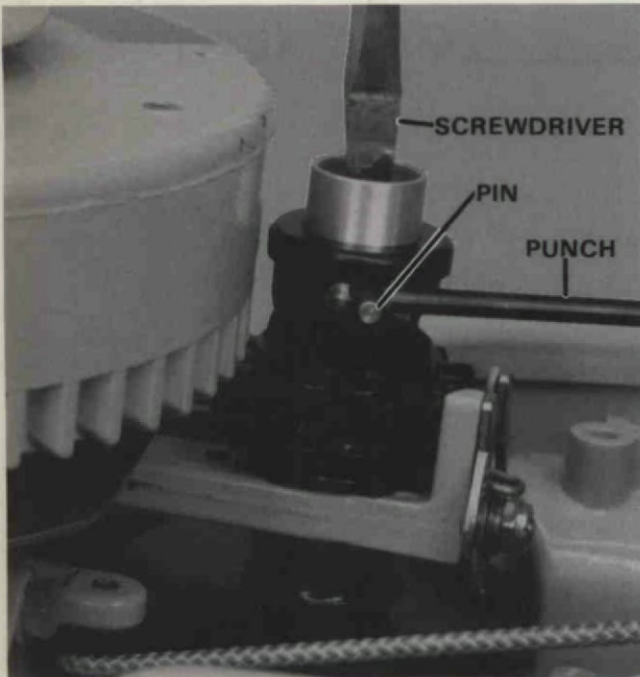

Figure 2. Removing Screw.
- A. Keep shaft from turning by holding a punch against pinion pin. Figure 2.